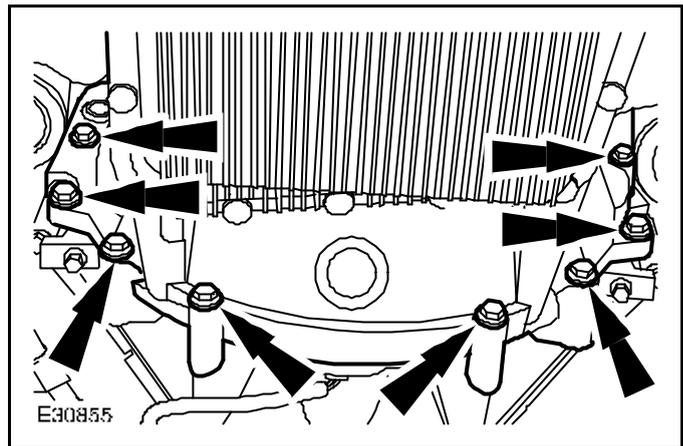

Fig. 1
- 9 Install and fully tighten the retaining bolts to 48 Nm (see Fig. 1).